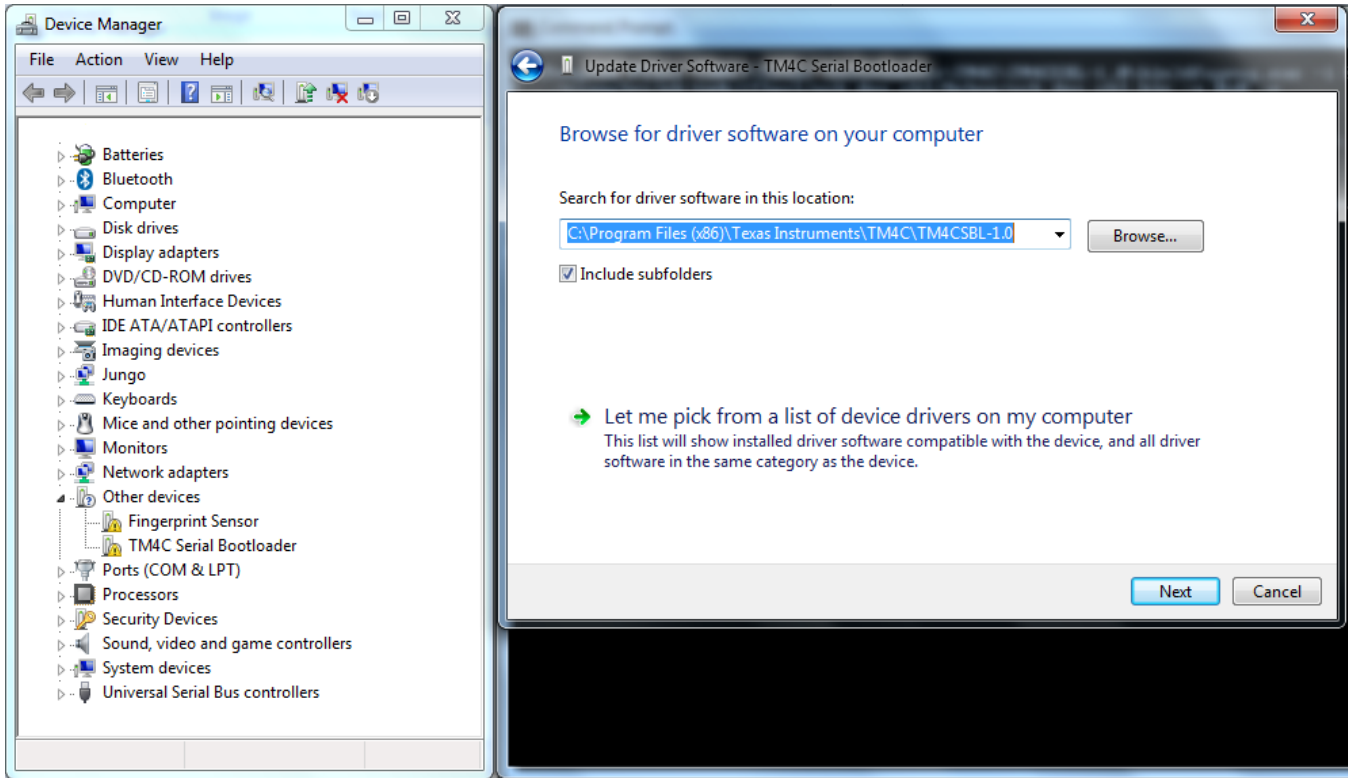

Figure 34. Updating the Device Drivers
- Right click on the Device Manager entry for “TM4C Serial Bootloader”, then click on “Update Driver Software”. Navigate to the path where the installer has kept the drivers, as shown in Figure 34.